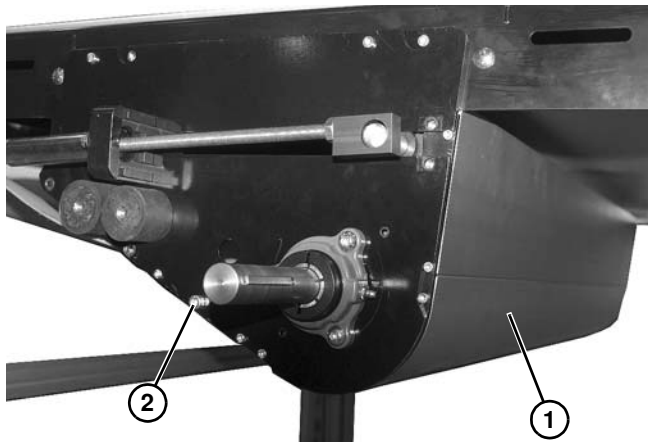
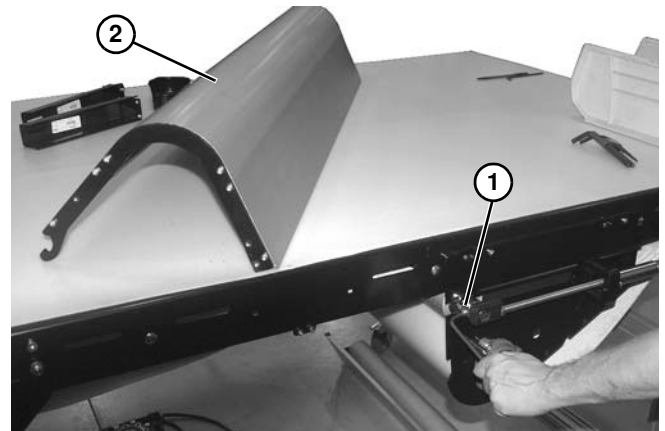

Figure 153
Figure 154
5. Temporarily support the tensioning roller guard (**Figure 153, item 1**). Remove screw (**Figure 153, item 2**) on each side of center drive and remove tensioning roller guard (**Figure 153, item 1**) and (**Figure 154, item 2**).
6. Loosen tensioning roller set screws (**Figure 154, item 1**).